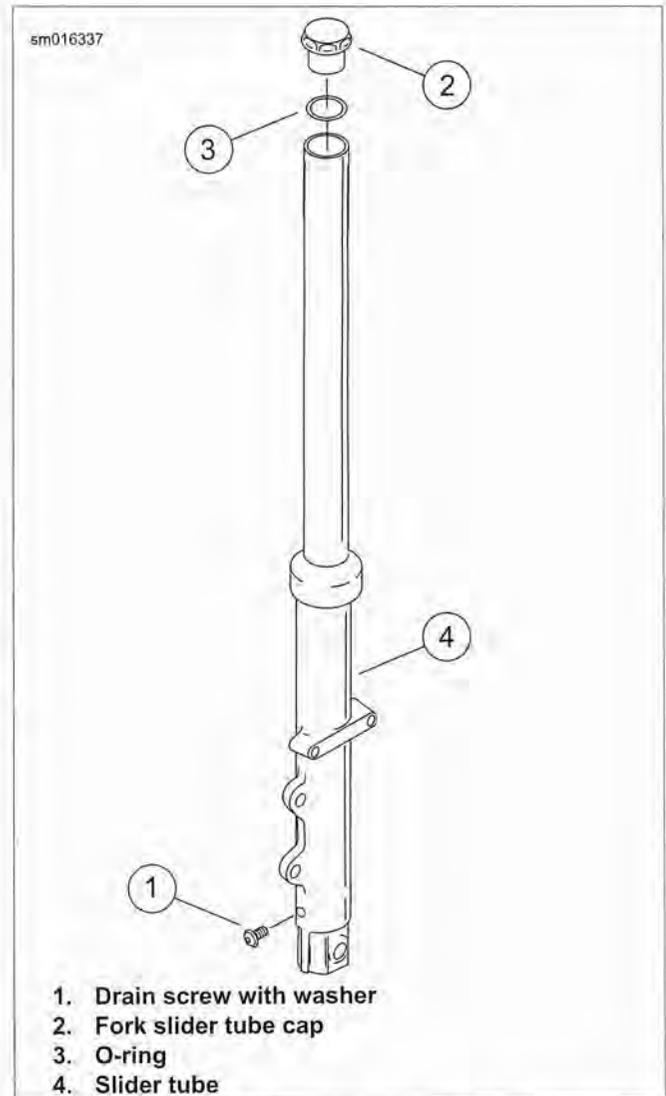

Figure 2-140. Draining Front Fork Oil: XL 883N/R and XL 1200N/L
2. See Figure 2-140, with the motorcycle upright (not resting on jiffy stand) and with the front fork pointed straight ahead, remove the drain screw and washer (1) from the bottom of the slider (4).
1. See Figure 2-140. Remove fork slider tube cap (2) with O-ring (3) from each slider tube (4). Replace the O-ring if damaged or worn.